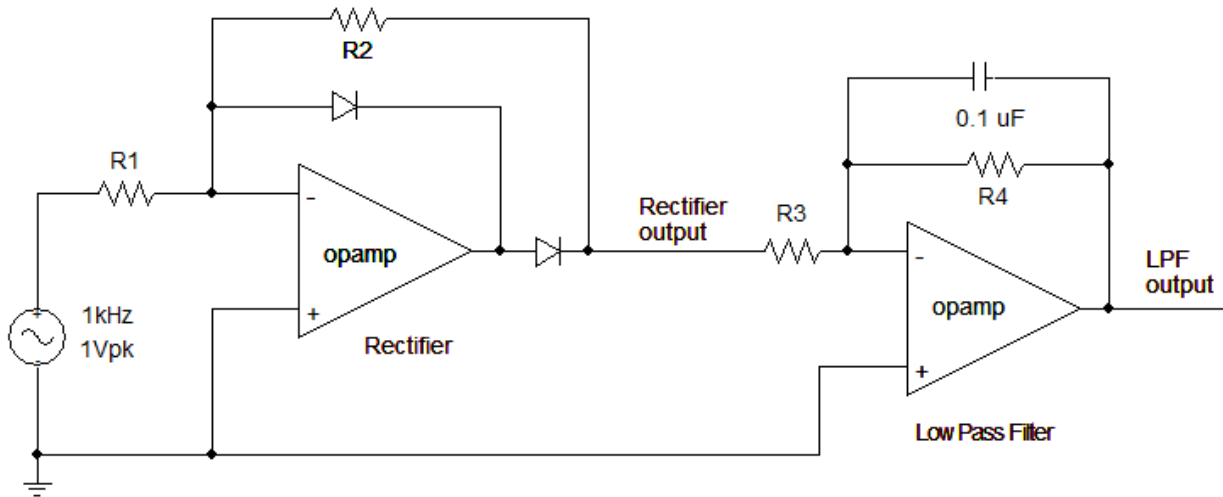

Figure 4 – A 1V, 1kHz AC voltage source is first rectified, then filtered to produce a negative DC voltage.
3. For the AC-DC circuit in Fig. 4, design a rectifier with a gain of 3, and a low pass filter with a gain of 5 and a cutoff frequency of 10 Hz . Keep all resistors $> 1\text{ k}\Omega$. Show your work.
4. Build the AC-DC converter of Fig. 4. Use the function generator to produce the sinusoidal voltage. Let $R_1 = 10\text{ k}\Omega$ and $R_2 = 33\text{ k}\Omega$. Use resistance boxes for R_3 and R_4 .